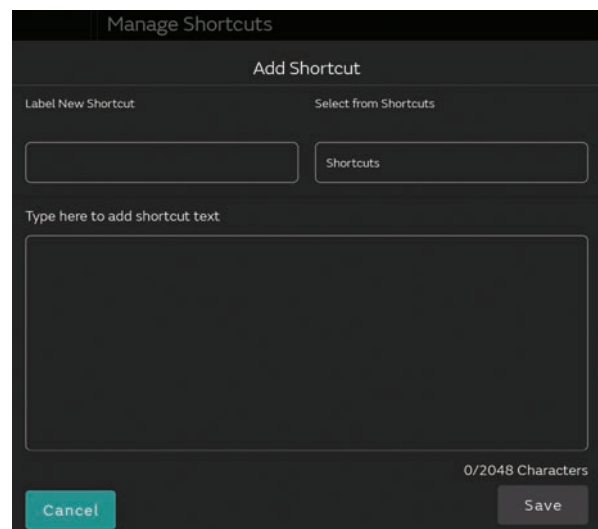

Figure 26. Adding a Shortcut
5. Tap inside the box (Figure 26).